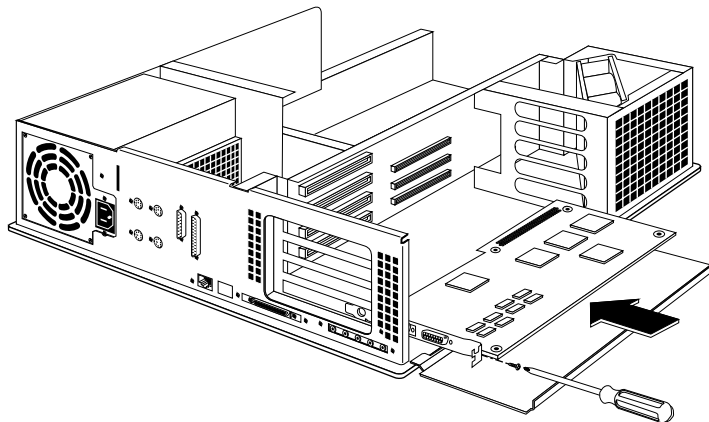

Figure 4-1 Inserting Cosmo into chassis
1. Align the metal I/O back plates on the Cosmo board with the slot on the chassis. Align the opposite side of the board with the metal grooves as shown in Figure 4-1.
3. Insert a screw into the back plate to attach the board to the chassis, as shown in Figure 4-1.